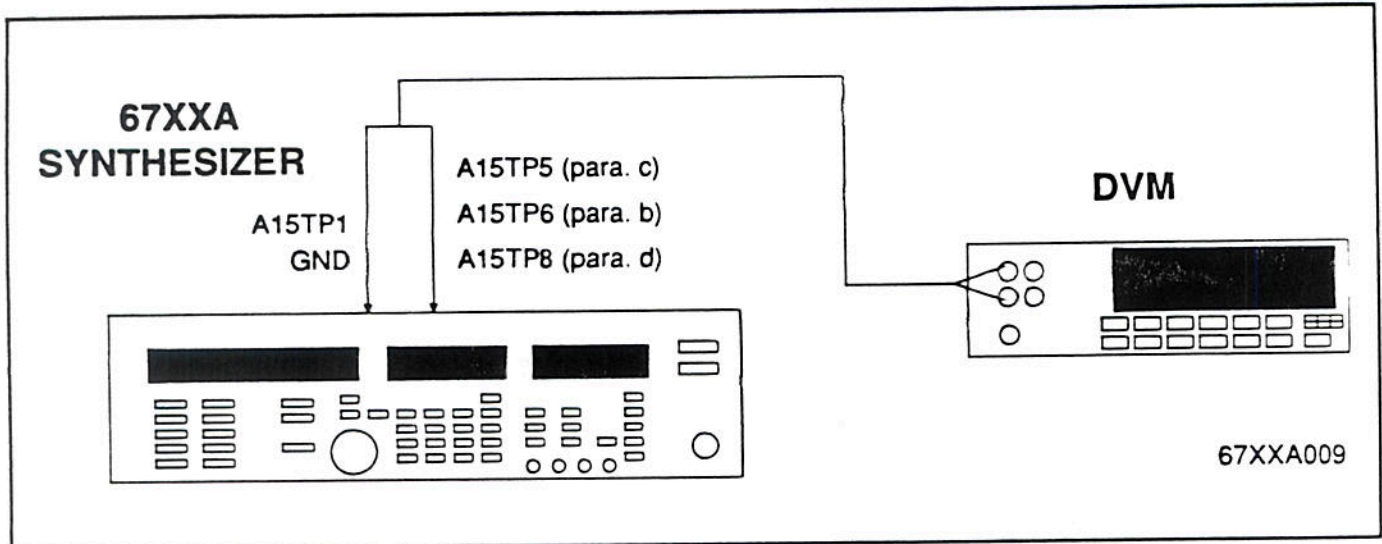

Figure 3-2. Test Equipment Setup for ALC Level Offset Adjustments
a. *Test Setup.* Connect the equipment as shown in Figure 3-2 and turn the equipment on.
6. Connect a digital voltmeter (DVM) between A15TP7 (+) and A15TP1 (-) (see Figure 3-2).
3. Connect the digital voltmeter leads between A15TP4 (+) and A15TP1 (-) (see Figure 3-2).